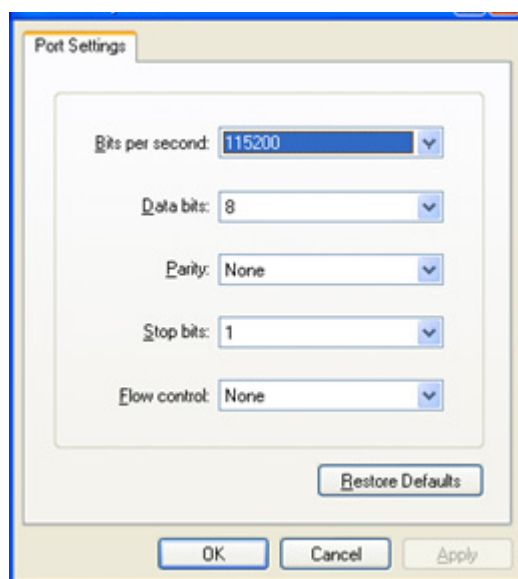

Figure 2.14 Debug port setting
2. Open HyperTerminal on your Windows PC, and select the settings as shown in Figure 2.14.